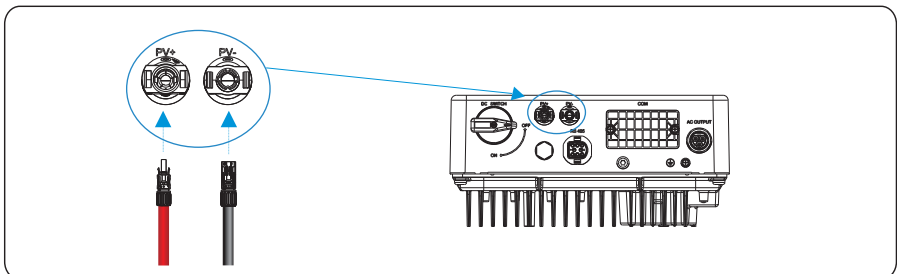

Figure 5.12 Connecting to the inverter
**Step 6** Insert the positive and negative connectors into their corresponding terminals of the inverter until a "click" sound is heard, as shown in Figure 5.12.